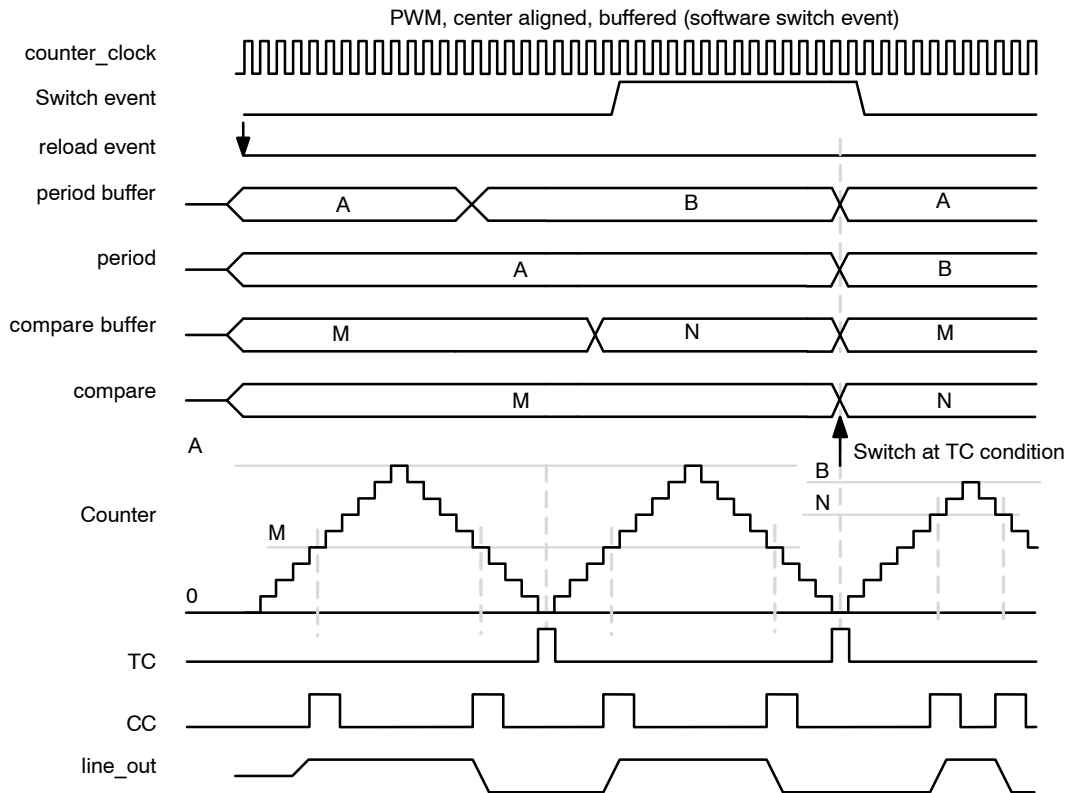

Figure 70. Timing Diagram for Center Aligned PWM (software switch event)
- Updates to the buffer period register and buffer compare register should be completed before the next TC with an active switch event; otherwise, switching does not reflect the register update, as shown in Figure 70.